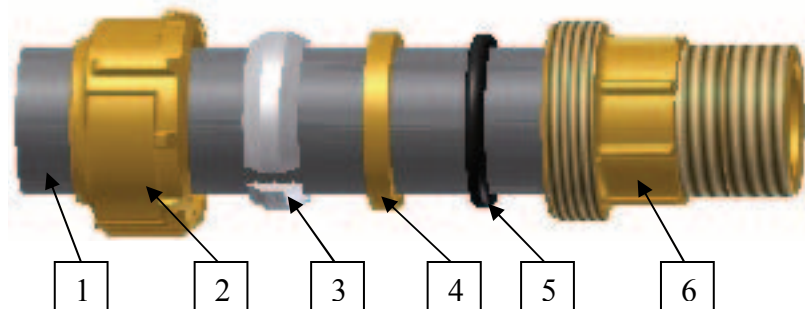

Fig.1
На рис. 1 пример правильной сборки.
- D. Insert the o-ring (5) into the pipe.
- E. Place the pipe with all the components inside the body of the connector (6) until the pipe keeps fixed inside.
- These instructions avoid a wrong coupling because of any kind of pipe's deformation. In the figure 1 instruct the correct assembly.